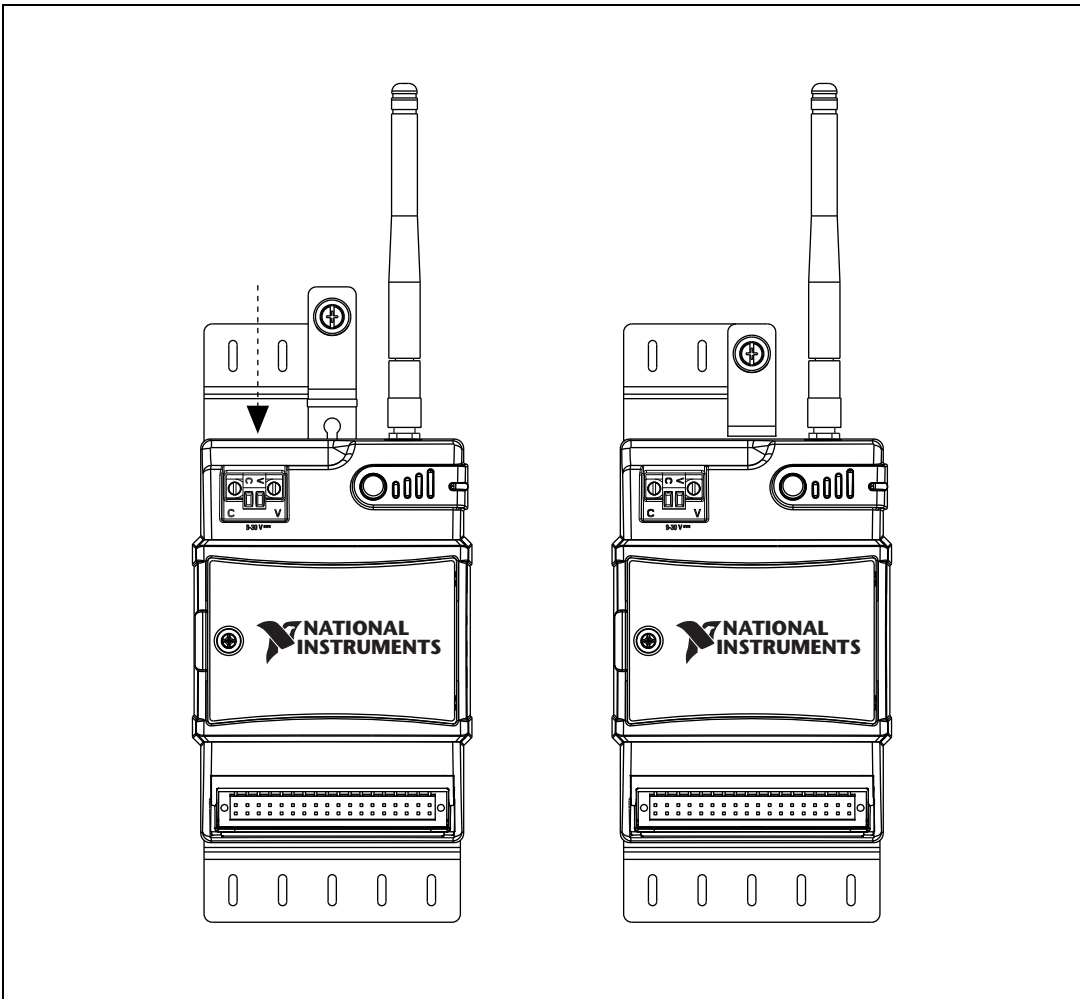

Figure 8. Slide Retention Clip Down and Tighten Panel Mount Knob
3. Slide the retention clip down and tighten the panel mount knob to secure the NI WSN-3214 device, as shown in Figure 8.